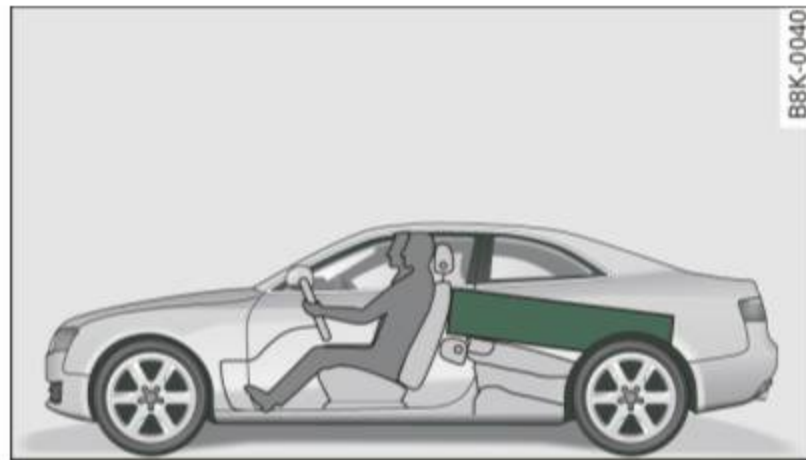

Fig. 85 Place heavy objects as far forward as possible.
- Place heavy objects as far forward as possible ⇒ fig. 85.